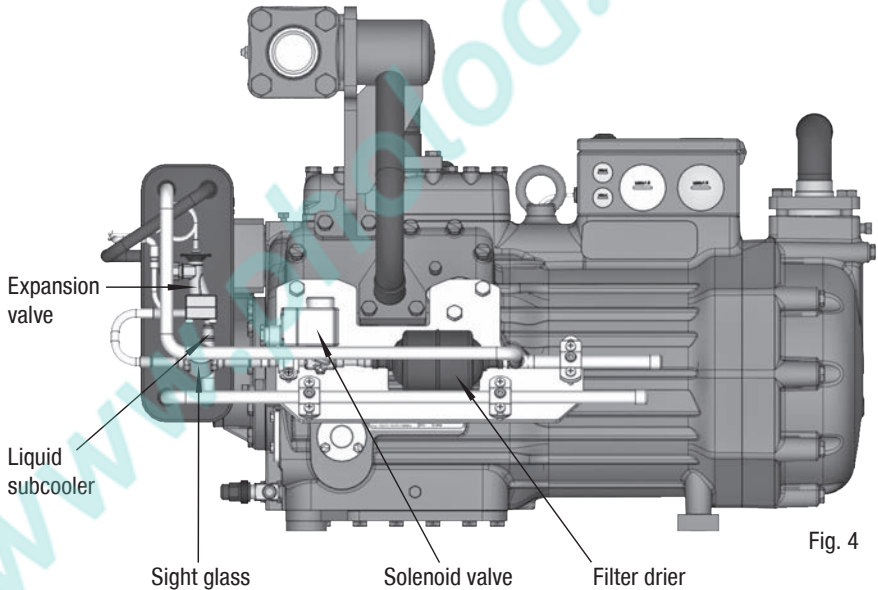

Fig. 4
- Liquid subcooler, expansion valve, solenoid valve, filter drier and a sight glass mounted directly to the compressor, piped and insulated (Fig. 4).